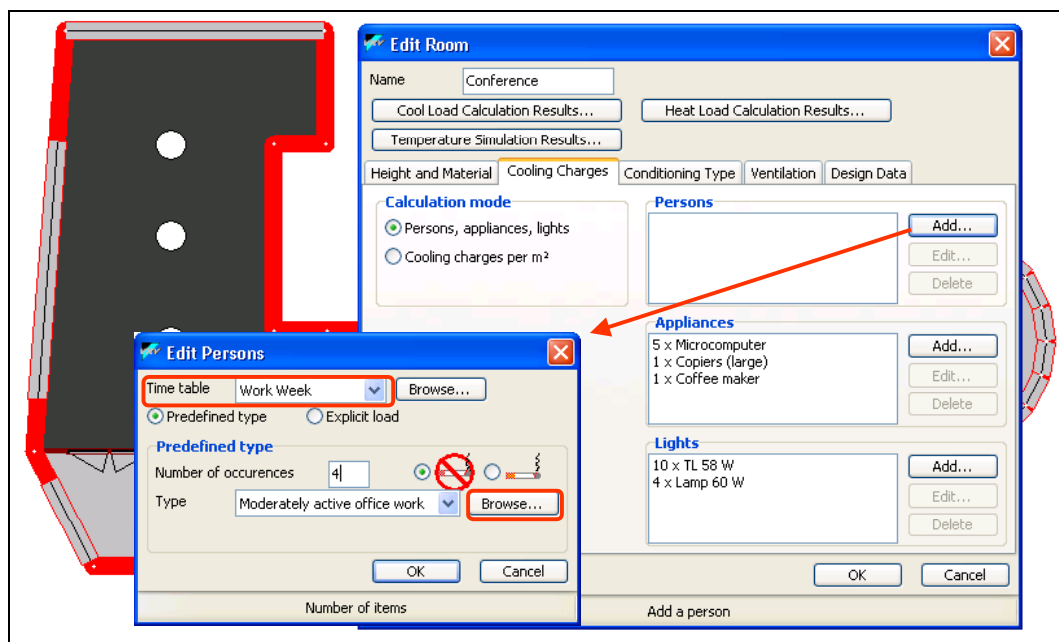
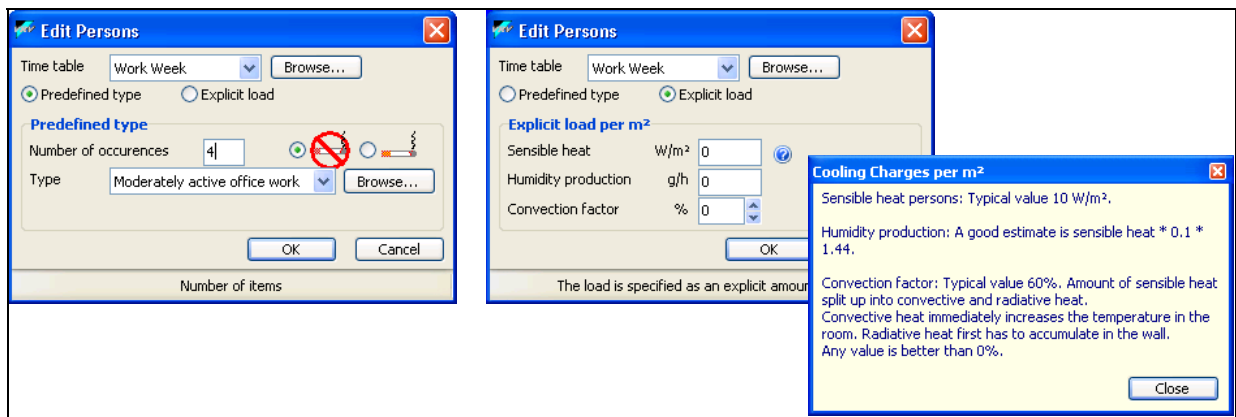

Figure 121: Defining explicit heat sources in a room
Figure 122: Defining persons in a room using predefined types or explicit loads
So, the cooling charges in a room refer to company database definitions. Figure 121 shows how to define 4 persons, who are office workers, present during a workweek. The Browse command indicated in the edit window activates the company database and shows the tab with the heat source definitions. The Browse command next to the occupation reference (time table) also activates the company database and shows the tab with the occupancy definitions.
- Instead of defining loads in terms of predefined types, as shown in Figure 121, you can also define explicit loads. Figure 122 shows the two windows to enter persons in a room. The window at the left uses predefined person types ("moderately active office work") and the one at the right explicit loads. As these values may not be easy to load, VRVPro adds a question mark icon (?), allowing you getting extra information, in most cases coming from ASHRAE.